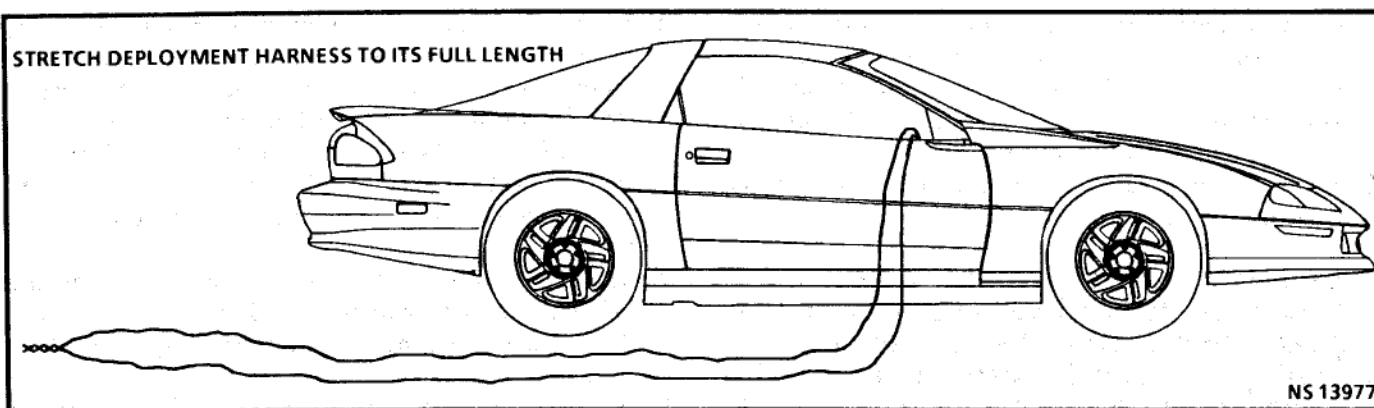

Figure 30 - Prepare Deployment Harness for In-Vehicle Deployment
22. Connect the deployment harness to the passenger inflator module jumper, yellow 2-way connector located behind the I/P compartment door assembly. Route deployment harness out the passenger side of the vehicle (Figure 30).